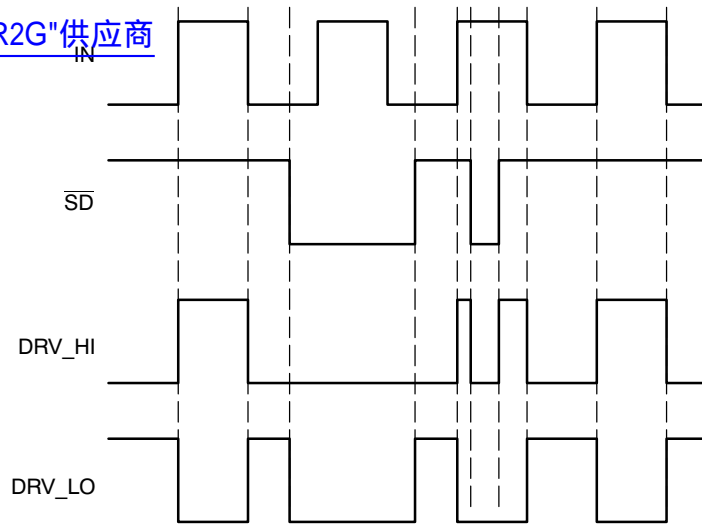

Figure 4. Input/Output Timing Diagram
5. Timing diagram definition see: Figure 4, Figure 5 and Figure 6.